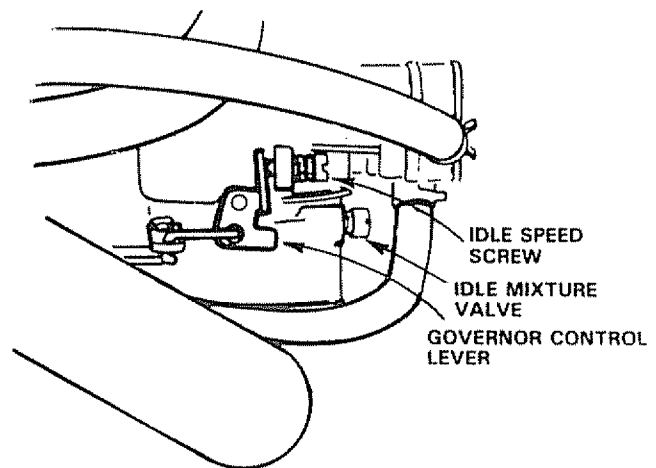

FIGURE 29
- Hold governor control lever against idle speed screw, and adjust idle speed screw to obtain 1200 to 1400 RPM (Fig. 29).